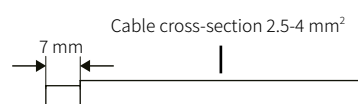

Fig. 22. Wire end stripping.
- b. Strip 7 mm of the insulation sleeve of the DC cable, as shown in Fig. 22: